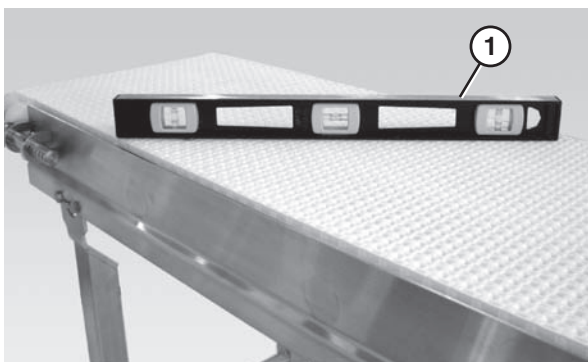

Figure 3
Conveyor MUST be mounted straight, flat, and level within confines of conveyor. Use a level (Figure 3, item 1), during setup.